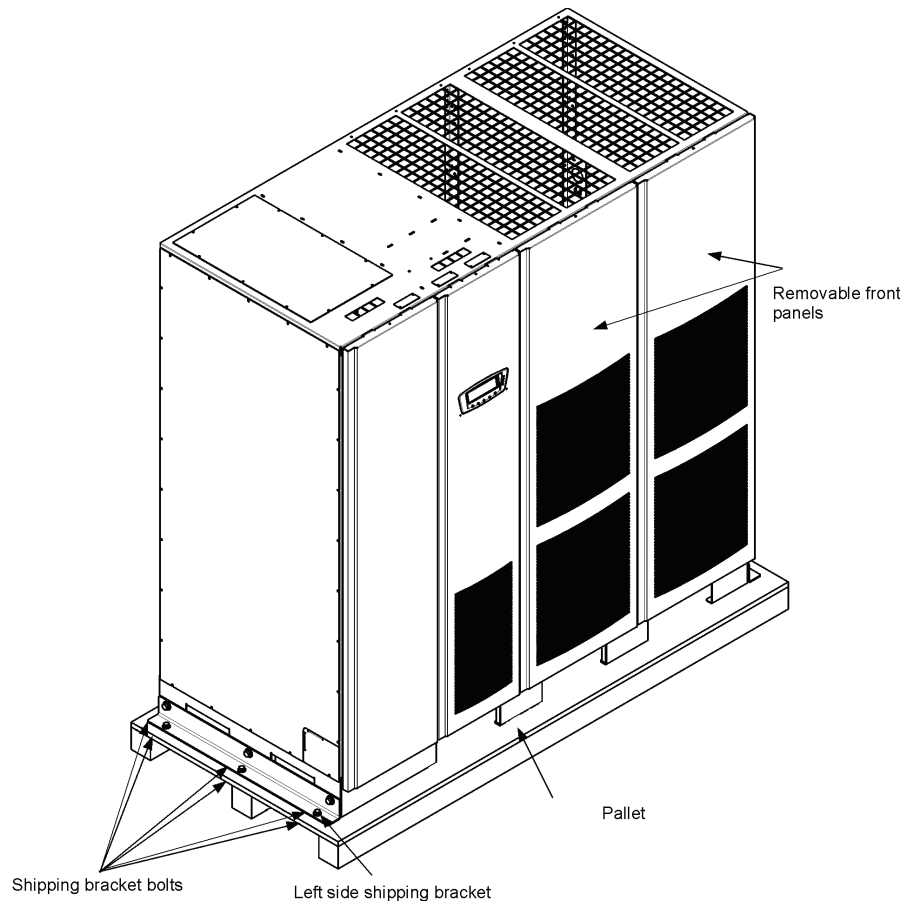
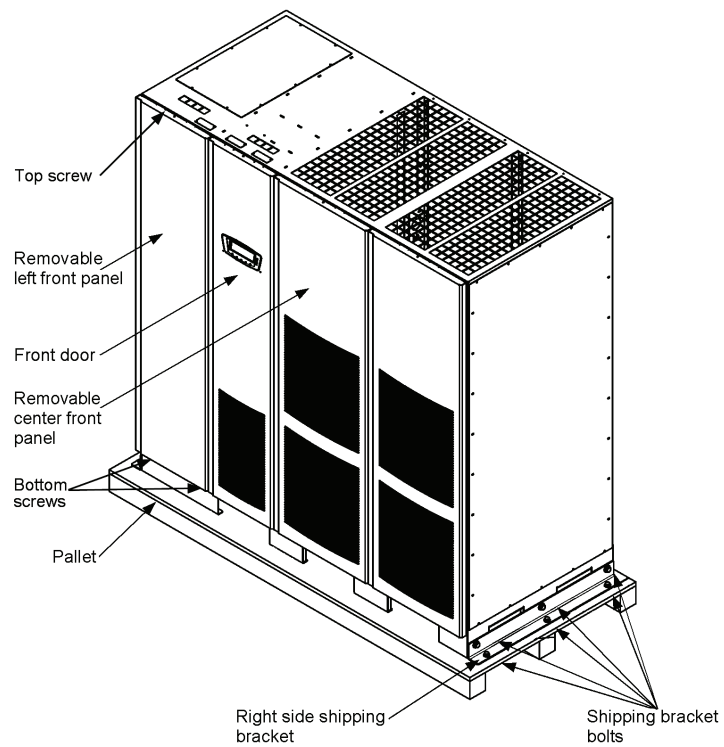

Figure 4-1. Removing left side shipping bracket
Figure 4-2. Removing right side shipping bracket
2. Remove the three bolts securing the left side shipping bracket to the cabinet and three bolts securing the bracket to the pallet (see Figure 4-1). Remove the left shipping bracket. If permanently mounting the cabinet, retain the shipping bracket and securing hardware for later use.
3. Remove the three bolts securing the right side shipping bracket to the cabinet and three bolts securing the bracket to the pallet (see Figure 4-2). Remove the right shipping bracket. If permanently mounting the cabinet, retain the shipping bracket and securing hardware for later use.
9. Using the retained hardware, reinstall the shipping brackets removed in Steps 2 and 3 to the left and right side of the UPS cabinet with the angle facing outward (see Figure 4-1 and Figure 4-2).
1. Remove one top screw and two bottom screws securing the UPS left front panel (see Figure 4-2 on page 25). Lift the panel straight up to remove from the panel hanger bracket at the top of the cabinet.
2. If not already accomplished, remove one top screw and two bottom screws securing the UPS left front panel (see Figure 4-2 on page 25). Lift the panel straight up to remove it from the panel hanger bracket at the top of the cabinet.